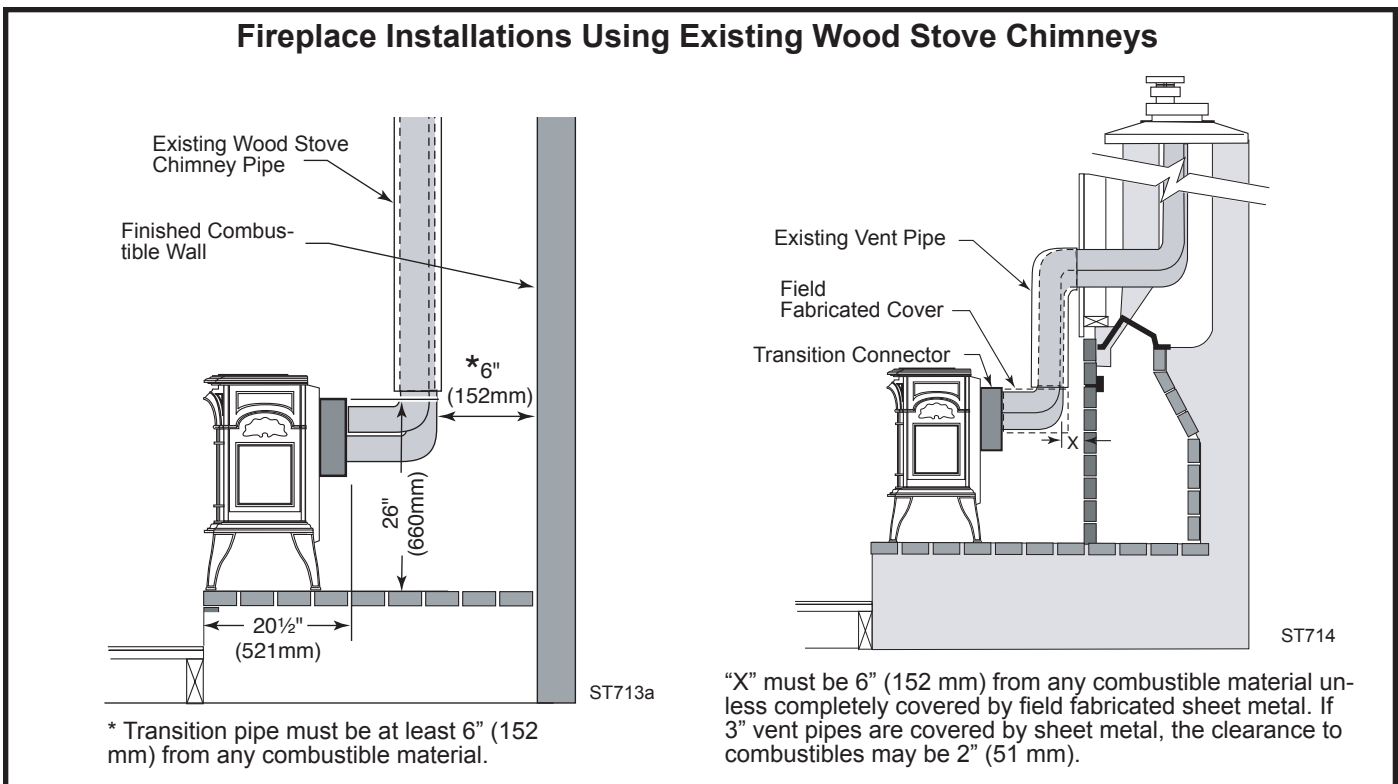

Fig. 35 Installations using existing wood stove chimney pipe.
6. Apply high-temperature sealant to the top of the chimney. Feed the two liners down through the chimney flue and damper opening. Fasten the termination assembly to the chimney with the four set screws (C) provided.
8. Attach the flex liners to the Transition Connector, using high-temperature sealant and clamps as shown in Figure 35. Prop the connector in rough position until the heater is in place in front of it.